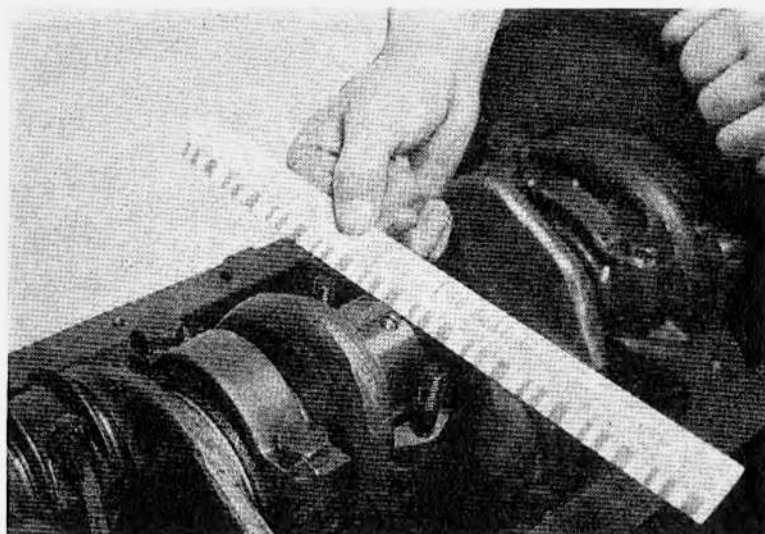

Figure 100 - Measuring Compressed Plastigage
- (5) Remove the bearing cap and without removing the plastigage, check its width at the widest point with the plastigage scale (Fig. 100).